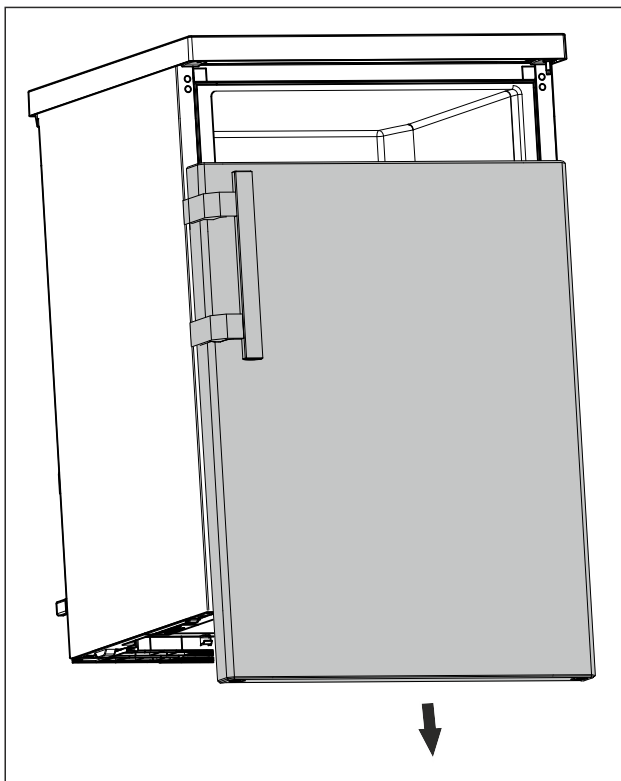

Fig. 8
- Remove the door downwards. (see Fig. 8)